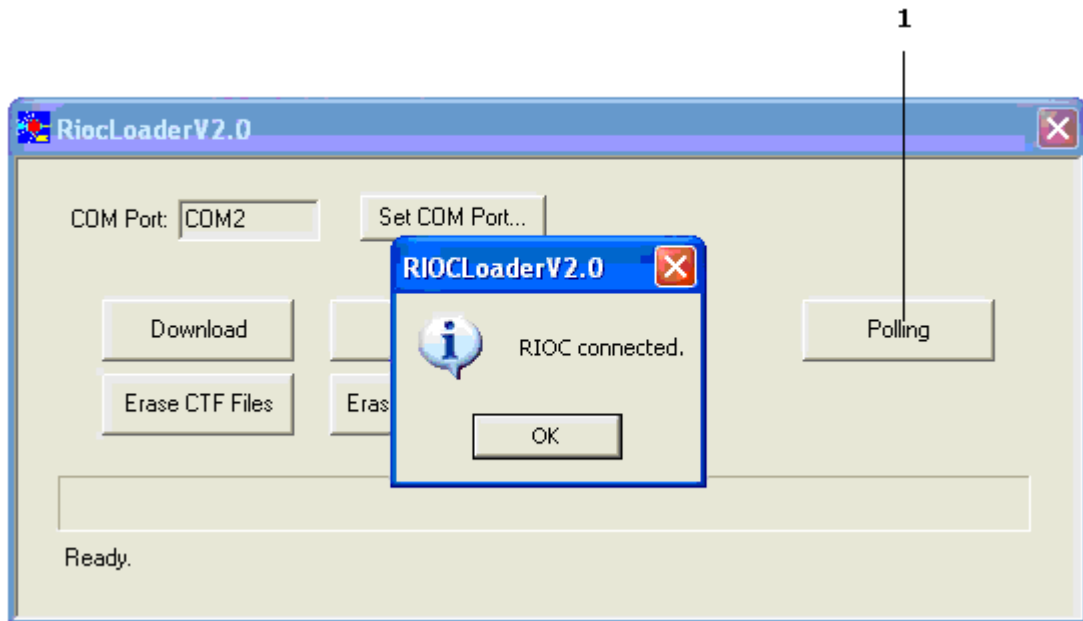

Figure 2
- (7) Open the right avionics-bay servicing-door, F17.
- (8) Open, then close the circuit breaker RIOC 4 (B19) in the avionics bay to set the RIOC 4 off then on again.
- (9) Select the Polling button (Ref. Fig 2, Item 1).
- (10) Make sure that the “RIOC connected” message is shown on the RIOC Loader V2.0 dialog box (Ref. Fig 2), then click OK.